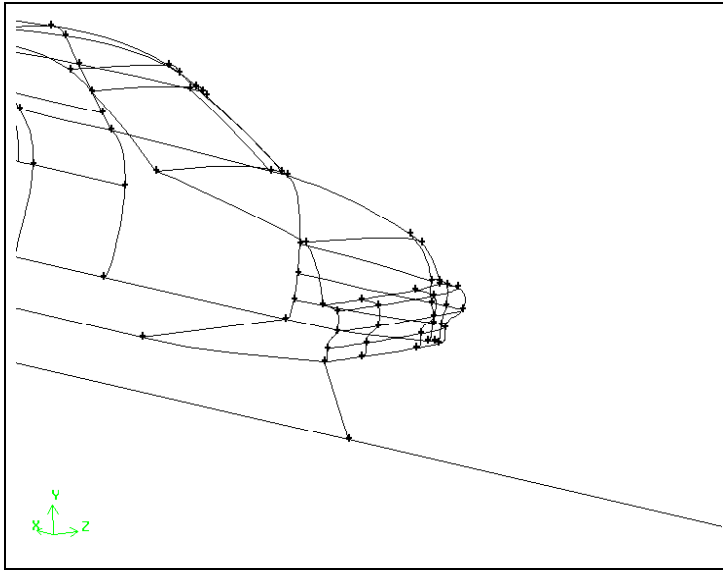

Figure 6-14: Edge from bottom of symmetry plane to front of sedan
- Zoom in on the front of the sedan so that you can see the front bumper and the first vertex created by splitting the edge at the bottom of the symmetry plane (see Figure 6-14).
- Click **Apply** to create the edge as shown in Figure 6-14.